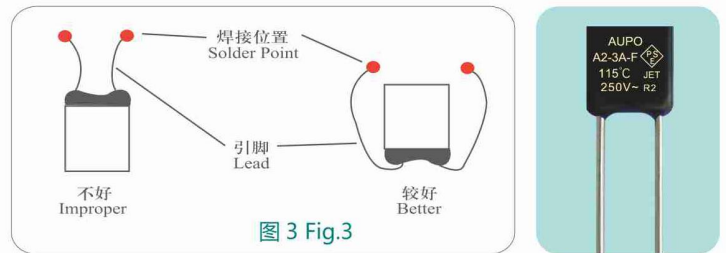

图3 Fig.3
- 尽可能利用长一些的引脚，长一些的引脚允许较长的焊接时间及减少过热的可能性。（见图3）为如何在较小的位置保留长一些的引脚的例子。在引脚较短的情况下，在焊接时要用尖嘴钳或其它工具夹在引脚上焊点和保险丝体之间位置上以散热，避免焊接热传入温度保险丝内部。同时焊接温度应控制不要过高，焊接时间尽可能短。
- Using the lead wires as long as possible when soldering, longer leads permit a longer soldering time and reduce the possibility of overheating. Fig.3 is an example of how to keep a longer lead wires when a thermal cutoff is installed in a small space. It is recommend that using a heat sink between the soldering point and sealant to minimized the heat transmission to thermal cutoff. Avoid the soldering temperature is too high and keep the soldering time as short as possible.